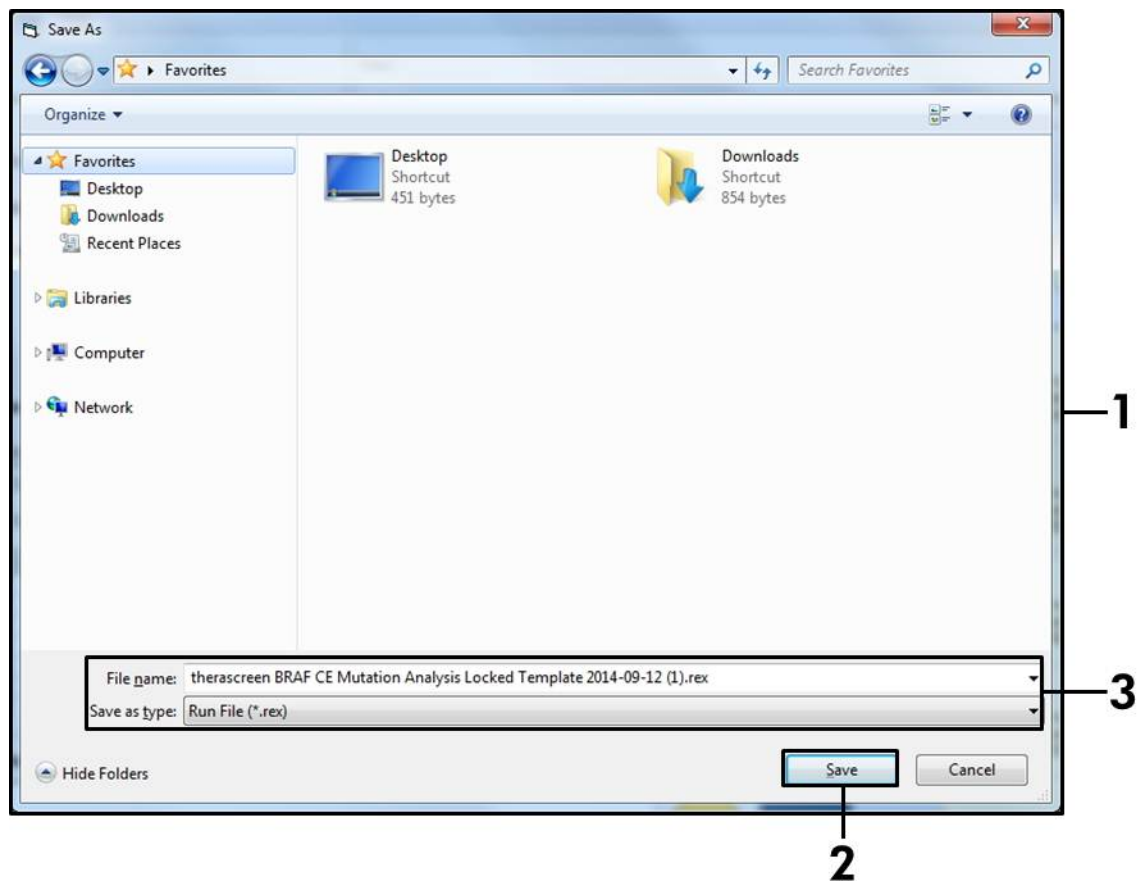

Figure 17. Saving the run file. (1 = “Save As” window, 2 = “File Name” and “Save as type” fields, 3 = “Save” button).
14. A “Save As” window appears. Chose an appropriate file name and save the PCR run as a *.rex run file to the selected location (Figure 17).